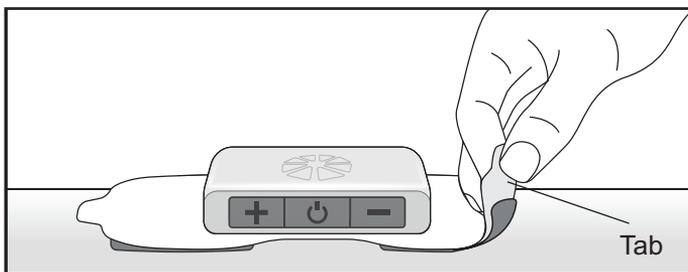

Figure 9-5: Removing the Gel Electrode
1. Make certain that stimulation is turned off. Then grasp the tab on the Gel Electrode and gently pull away from the skin. See Figure 9-5.